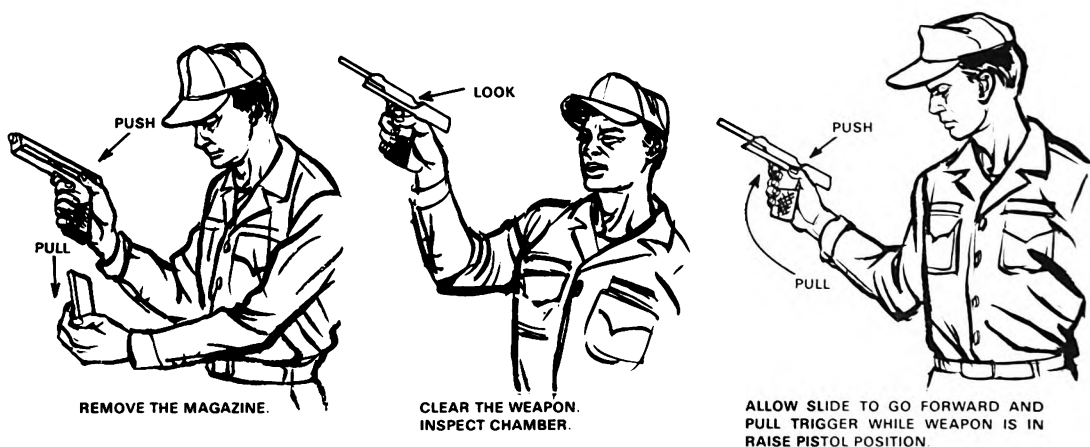

Figure 6.
- (1) Remove magazine.
- (2) Inspect chamber.
- (3) Insert new magazine and release slide.
- (4) Attempt to fire again.
5. Unloading (figure 6).